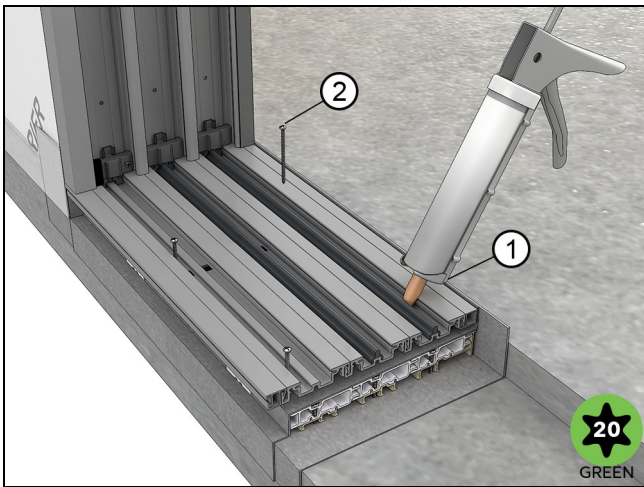

Figure 61 Seal and fasten HP sill.
7. Inject sealant and fasten with the #8 x 1 3/4" self drilling screws every 10" (254) (T20 Torx). See Figure 61.